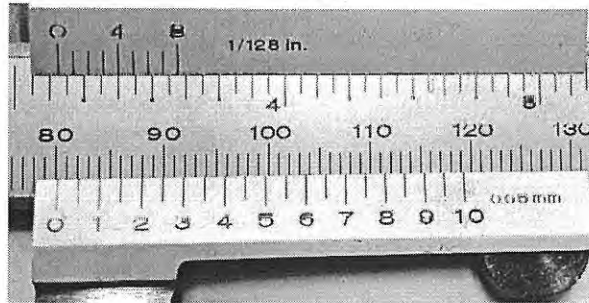

Figure Q3
- Q3** (a) Read the measurement from **Figure Q3** in metric and imperial. Show your calculation for imperial reading. (6 marks)
- ii. Find R_z if the measurement R_z of the other four (4) sampling area were, 1, 1, 1.5, 2 and $3\mu\text{m}$. (4 marks)